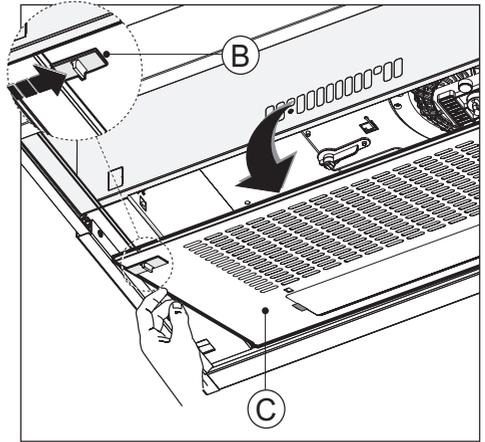

Fig.3
- Remove grille **C** using the relevant buttons **B** (fig. 3).
The active carbon filters should be fitted inside the hood, by centring them and rotating them 90 degrees, until they click into place. To perform this operation, first remove the grille **C** (fig. 3).